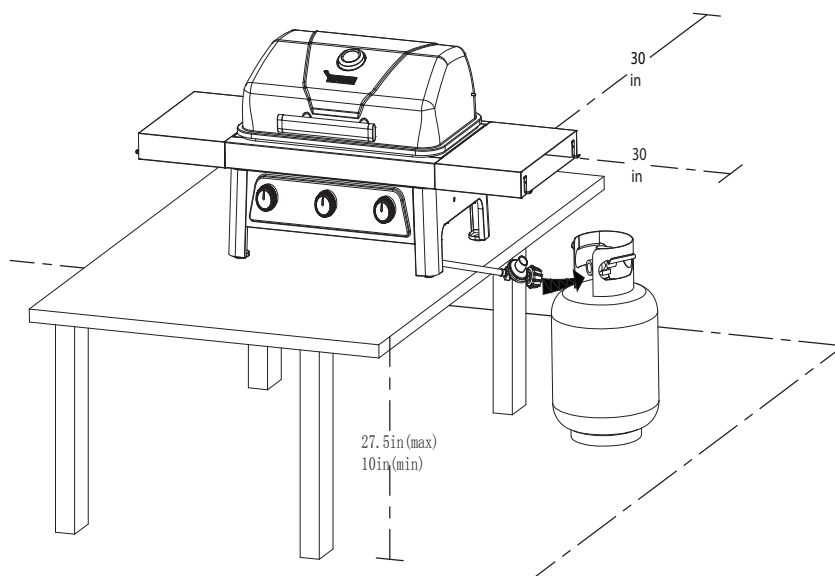

figure 2
- 3) Place it on a table with the distance requirement as shown in figure 2 before use.
**IMPORTANT** to follow the minimum distance requirement as shown in figure 2 before use. Failure to follow these instructions could result in fire or explosion which could cause property damage, personal injury or death.